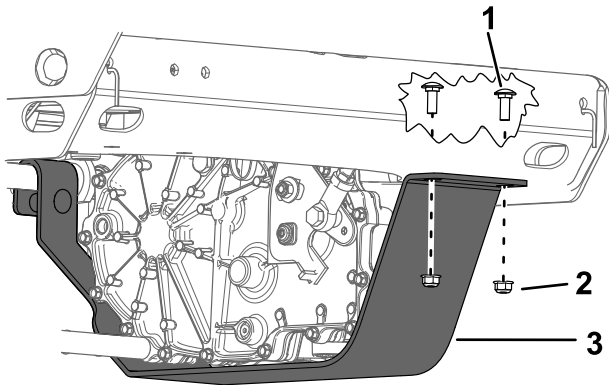

Figure 62
4. Remove the 2 bolts and nuts from the transaxle guards (Figure 62).